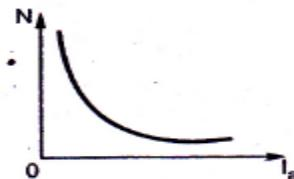

Fig. 2 N Vs I_a for series motor
- (ii) By connecting the field coils in **series** with the armature- **Series**. (Fig 2) **excitation.**